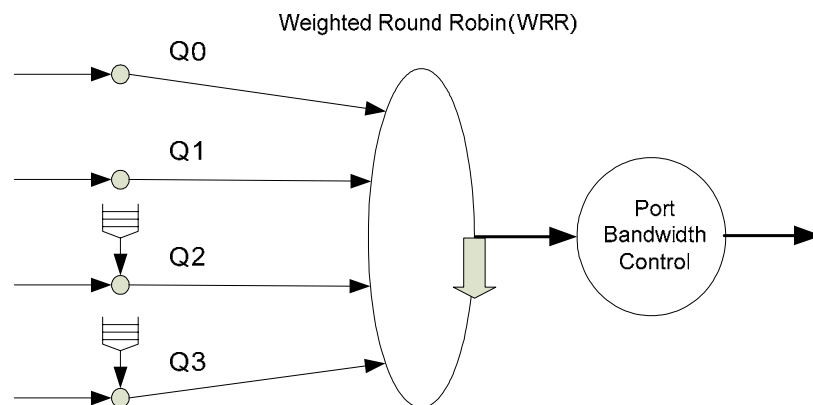

Figure 20. Packet-Scheduling Diagram
- Type I leaky bucket, which specifies the average rate of one queue (see Figure 20; only Q2 and Q3 have leaky bucket, Q0 and Q1 do not). The queue rate can be configured from 0kpbs to the line rate in steps of 64kbs.
In addition, the RTL8306E can select one of the two sets of packet-scheduling configurations according to the packet-scheduling mode. Figure 20 shows the RTL8306E packet-scheduling diagram.